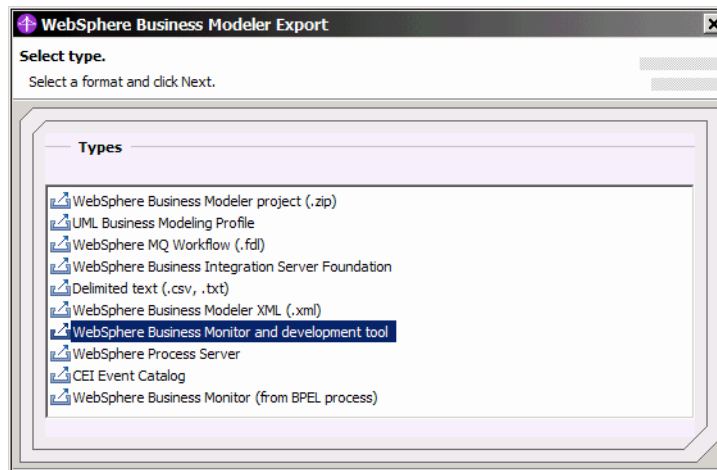

Figure 8-37 Export project with business measures
- ▶ Select the type of export you want. Select *WebSphere Business Monitor and development tool* (Figure 8-37). Click *Next*.